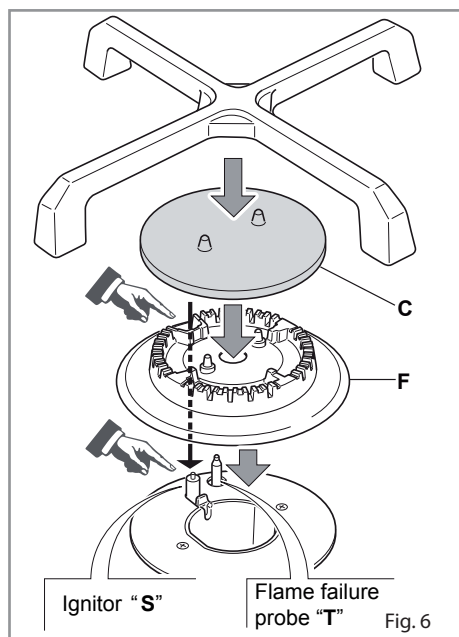

Fig. 6
- Check that the electrode "S" (fig. 6) is always clean to ensure trouble-free sparking.
- Check that the probe "T" (fig. 6) next to each burner is always clean to ensure correct operation of the safety valves.
- It is very important to check that the burner flame spreader "F" and the cap "C" have been correctly positioned (see figs. 6 and 7). They shall be level and must not rotate. Failure to do so can cause serious problems.